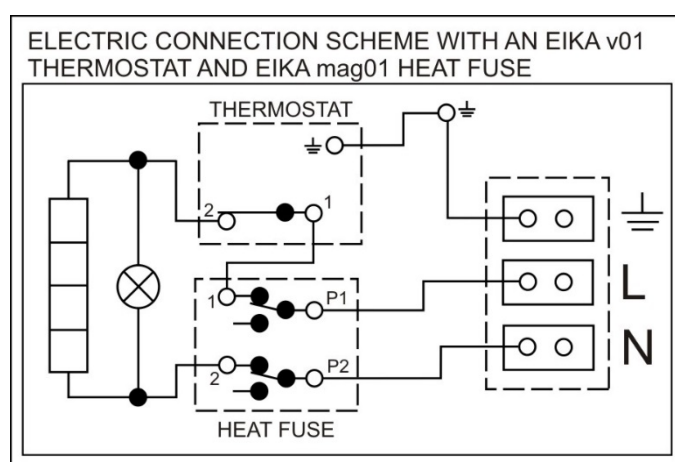

Figure 9
- The electric wiring scheme is attached to the water heater on the side of the electric installation guard (Figure 9).